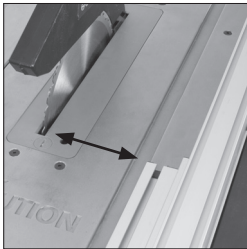

Fig. 45
- We recommend you adjust and align the back of the Rip Fence faceplate level with the front of the saw blade (Fig. 45).